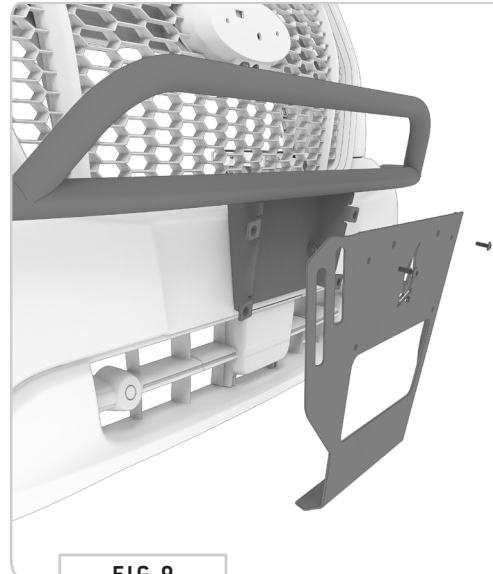

FIG 9
3.1 Dry Fit Front Plate: Loosely attach the **Front Plate** to the **Nudge Bar Front Weldment** using two **1/4-20 x 0.75 Flanged Button Head Screws** (FIG 9+10).